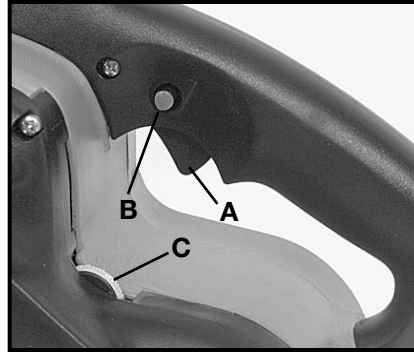

Fig. 2
- Squeeze the trigger (A) Fig. 2 to start the motor. Release the trigger to stop the motor.
- To allow the motor to run without constantly holding the trigger, press the trigger switch (A), push the lock button (B) Fig. 2, and release the trigger switch.
The speed is adjusted by turning the thumbwheel, (C) Fig. 2. The first position provides the slowest operating speed (850 SFM) while position 6 is the fastest (1300 SFM). The speed can be changed either when the motor is running or is stopped.